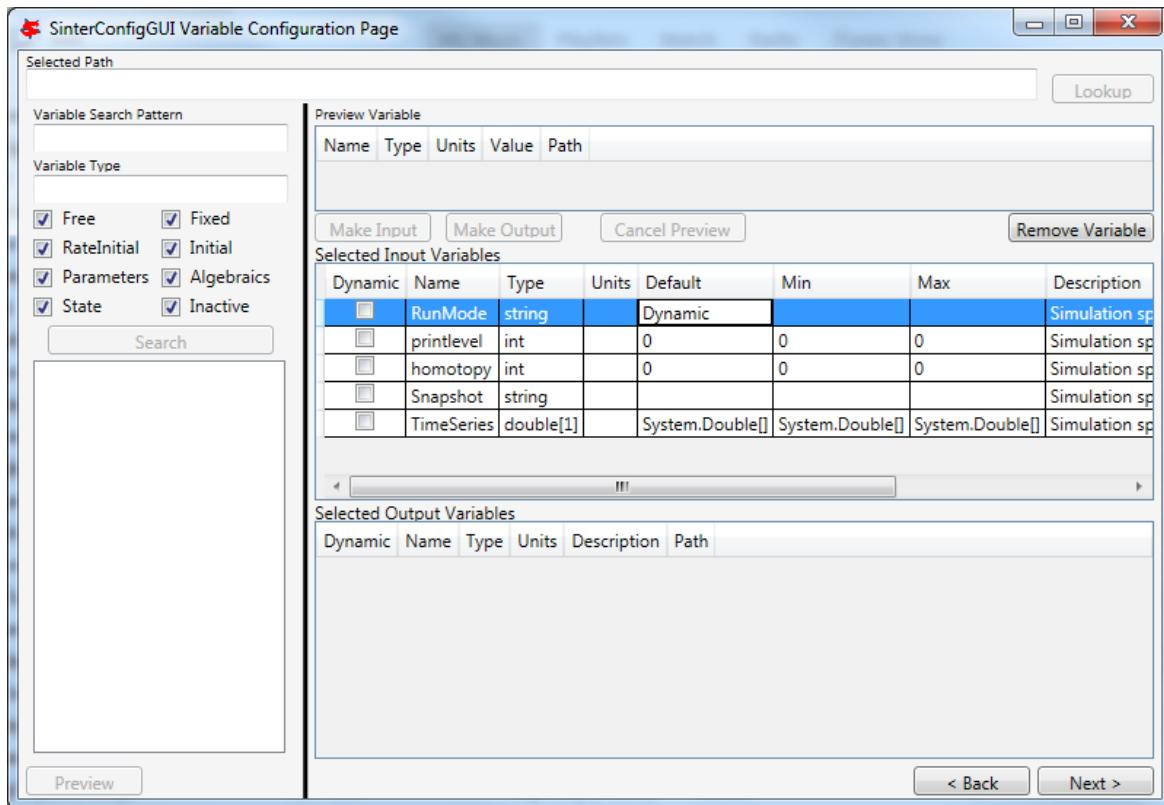

Figure 44: SinterConfigGUI Variable Configuration Page for Dynamic ACM.
9. The SinterConfigGUI Variable Configuration Page window displays as shown in Figure 44. The ACM Setting variables are already included in the “Selected Input Variables.” For this simulation, change “RunMode” to “Dynamic.”
6. Fill in the “Run id -->” row (Row 4). The macro uses this row to determine how many runs to perform. The macro continues performing runs until this row is empty. Since there are two runs set up in this example, values are needed in cells “F4” and “F5.” The values do not matter, but may be useful user documentation. The resulting spreadsheet should look Figure 44.